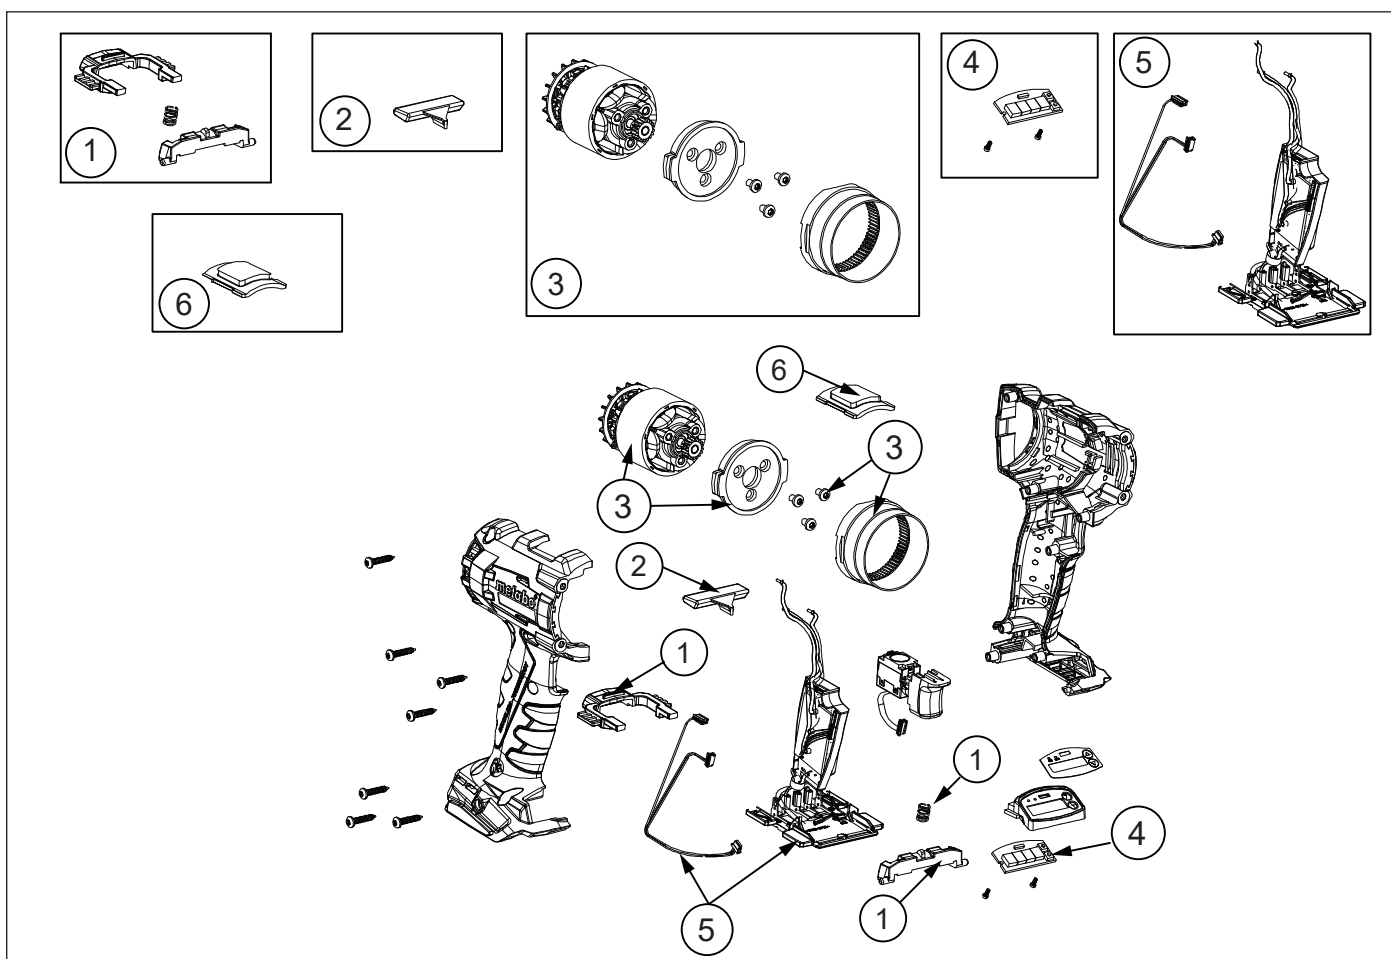

Figure 8: BTW Handle Service Kits
9.2.2 BTW Handle Service Kits (Figure 8)